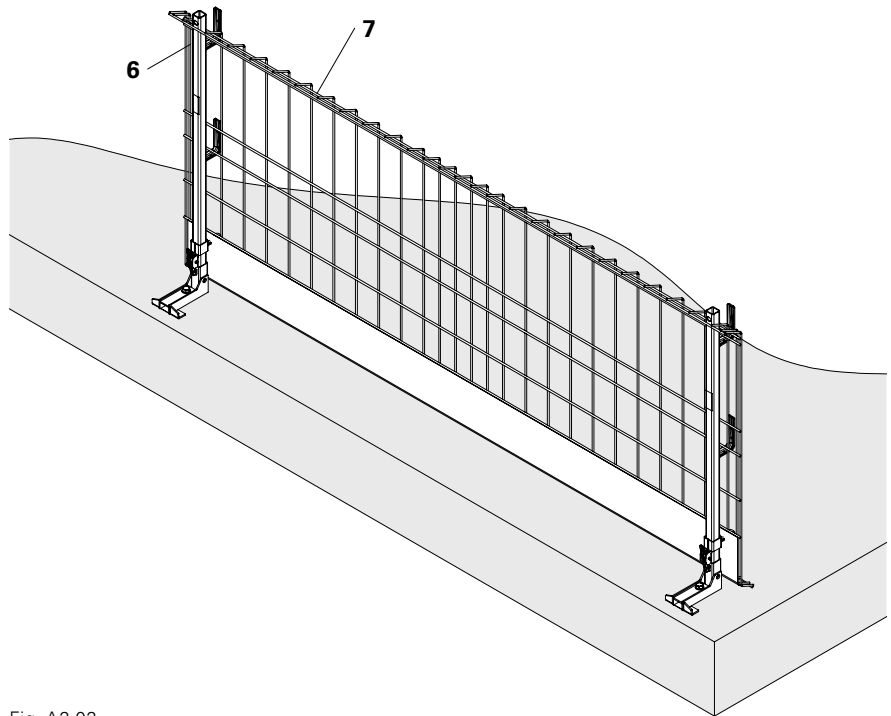

Fig. A2.02
3. Insert post (6) into rectangular tube (1a), see Section “A3 Post” on page 33.
4. Fit the side mesh barrier (7), see Section “A4 Lateral protection” on page 35. (Fig. A2.02)